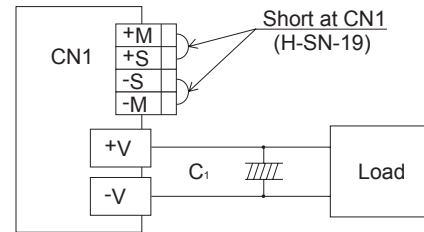

Fig.1.6 When not using remote sensing function
- Please see Fig.1.6 if you do not use the remote sensing function.